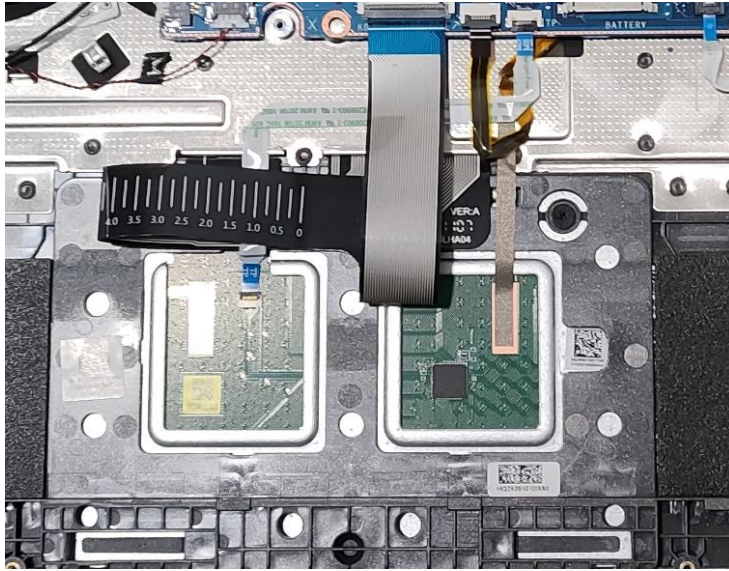

Figure 3-85. Replacing the Touchpad Module
6. Attach the adhesive tape to secure the touchpad FFC connection (Figure 3-85).